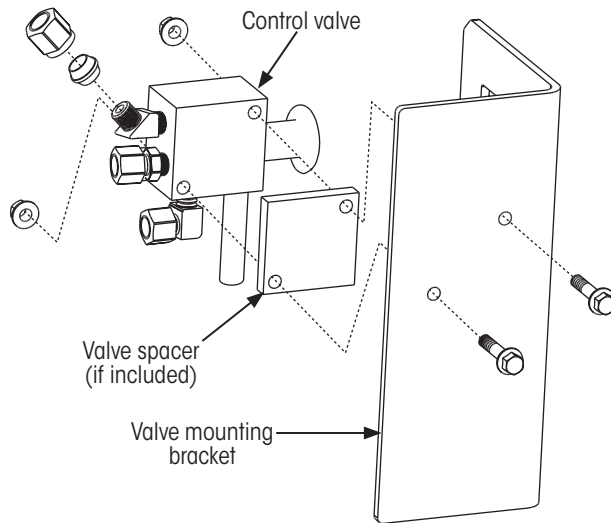

Figure 7: QUIK-DRAW control valve components
NOTE: Although the QUIK-DRAW® valve is the same for all applications, the mounting brackets and hardware (Figure 7) will vary between Hendrickson slider suspension types (HKANT, HKAT, HKAL, UTKNT, AAZ, etc.). Capturing photos of the original mounting may prove helpful when installing the replacement valve.
2. **Orient** the QUIK-DRAW control valve so the exhaust hose is facing downward and **place** the control valve, with spacer (if equipped, Figure 7), on the valve mounting bracket.
3. Using the two 1/4 - 20 x 1.5 inch hex head bolts, provided in the retrofit kit, **insert** the bolts through the QUIK-DRAW valve, spacer (if equipped) and mounting bracket holes (Figure 7).